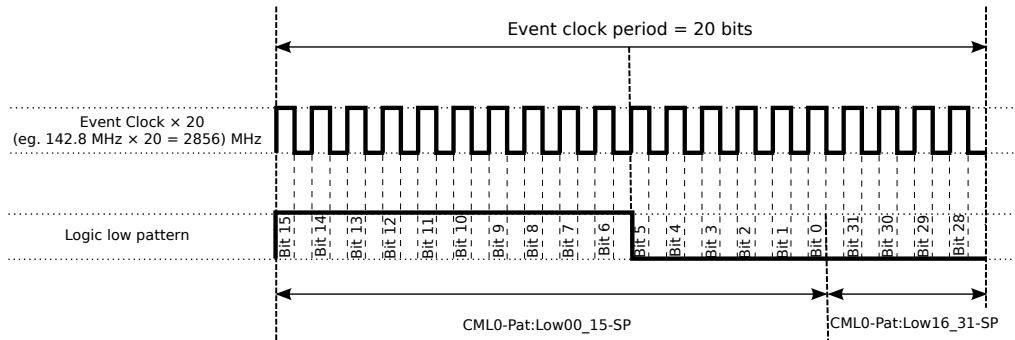

Figure 4: Generate the event clock
FrontOut6 (CML2) capable of CML output. This tutorial demonstrates how to configure CML0 output (corresponds to FrontOut4 output) to generate a clock signal, that has the same phase and frequency as the event clock. To achieve this, the FrontOut4 output source is set to `logic low` and the CML outputs are enabled. This causes the logic low pattern of the CML pulse mode to be continuously outputted. The configurable pattern, as seen in Figure 4, is 20 bits long and is sent out with a bit rate of 20 times the event clock rate. It is configured to replicate the event clock phase and frequency.
- `CML0-Pat:Low00_15-SP=0xFFC0`: Set logic low pattern bits 0-15. The Figure 4 shows that the bits 15-0 must be set as follows: 1111 1111 1100 0000, which translates to 0xFFC0. Each bit represents 1/20 of the event clock period.
- `CML0-Pat:Low16_31-SP=0`: Set signal low pattern bits 16-31, as seen in Figure 4. Note, that only bits 31-28 (top 4 bits) can be used.